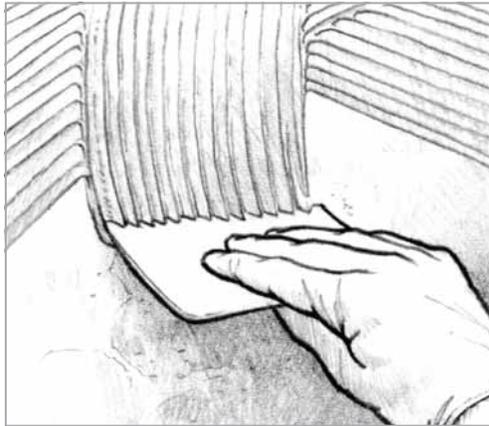

Figure 7 Apply the fairing compound with the notched spreader. Control the height of the ridges by the angle you hold the spreader.
4. Apply the fairing compound with the notched spreader (*Figure 7*). Hold the spreader at a higher angle to leave deeper ridges on the lowest areas and at a lower angle to leave shallower ridges on the higher areas. The tops of the ridges should be slightly above the finished fair level. Allow the fairing compound to cure thoroughly.